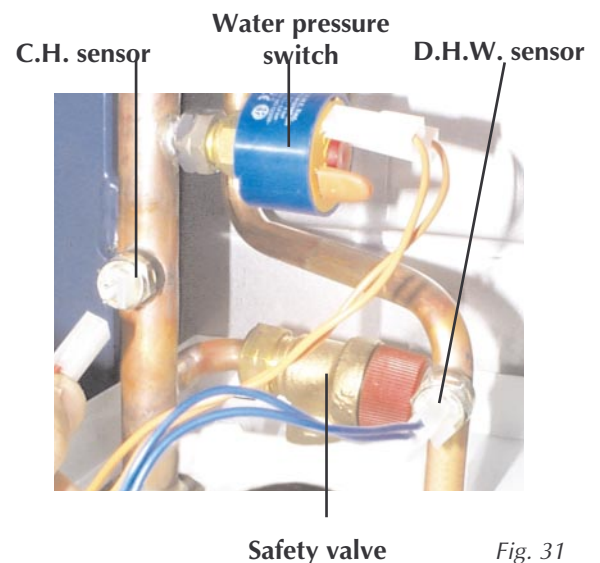

Fig. 31
## 7.07 D.H.W. temperature sensor or Central Heating Temperature Sensor (fig. 31)
- Identify the sensor from figure 31
## 7.11 Water Pressure Switch (fig. 31)
- Identify the switch from figure 31
## 7.12 Safety Valve (fig. 31)
- Identify valve from fig. 31